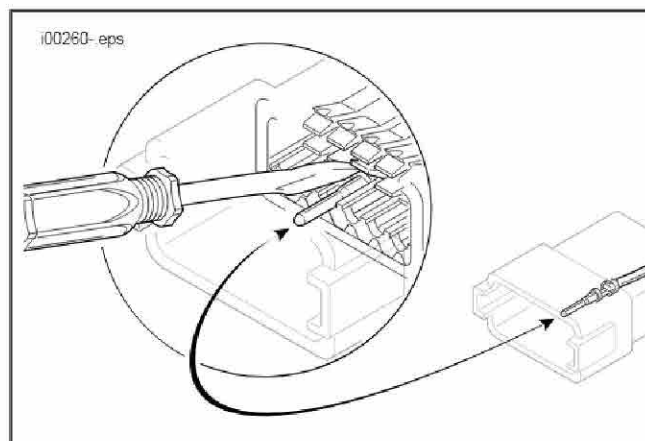

Figure 6. Depress Terminal Latches and Remove Pins
9. See Figure 6. Gently depress the terminal latches inside the pin housing and remove pin terminals through holes in wire seal. Leave the seal pins (or plugs) in place. Set the pin housing aside.